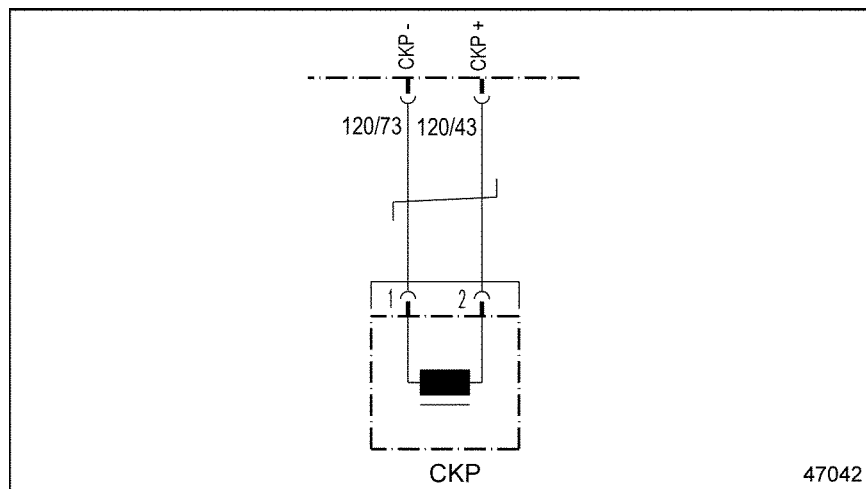

Figure 23-4 Crankshaft Position Sensor
- [a] If sensors are out of position, repair or replace the spring bushing, as required. Erase fault code memory. See Figure 23-4.